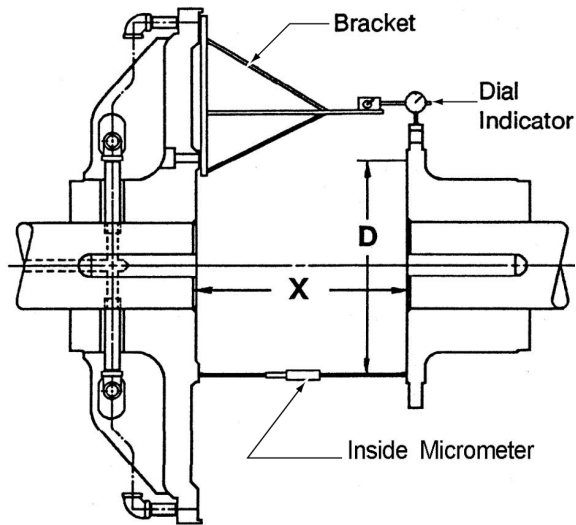

Figure 9
Not to exceed 0. 0005 inch per inch (. 0005mm/mm.) diameter at which readings are taken (“D” on Fig. 9).
- 2.4.1 Foundations must be set so distance “X”, shown on **Figure 9**, is established. If the clutch is mounted on a shaft having plain bearings, make sure the shaft is centered within the bearings when establishing the “X” dimension. Refer to Table 2 for appropriate “X” dimensions.
“X” DIMENSIONS (FIG 9)**
- 2.4.2 Fabricate a rigid bracket for supporting a dial indicator and attach to the spider. See **Figure 9**